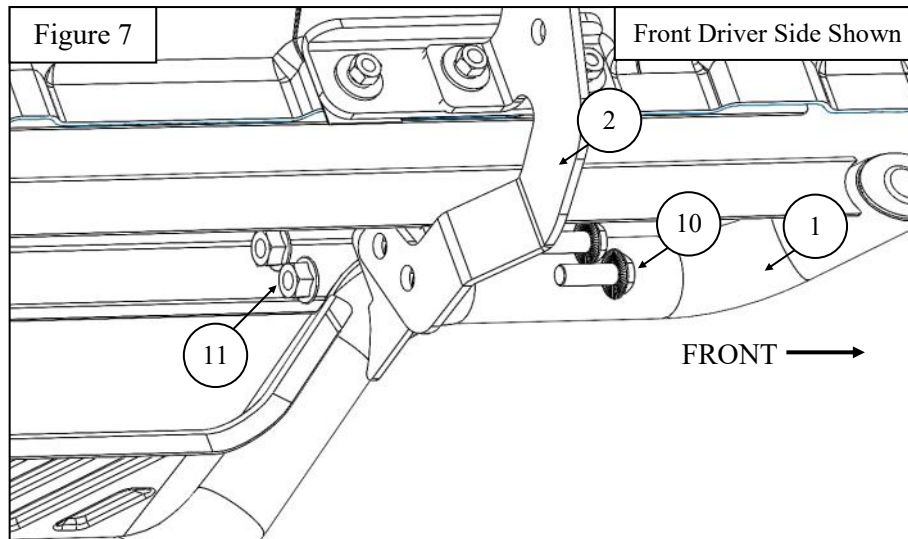

Figure 7
7. With all of the Support Bracket and Mounting Bracket assemblies in their corresponding locations, install the driver side Outlaw Step Bar Assembly (Item 1) using the supplied M10 hardware. See **Figure 7** for reference.